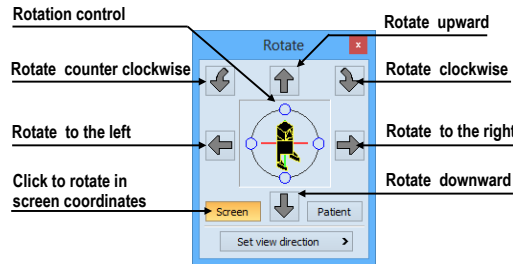

Figure 314 – Rotate tool (Screen mode)
- rotation in screen coordinates (see Figure 314)